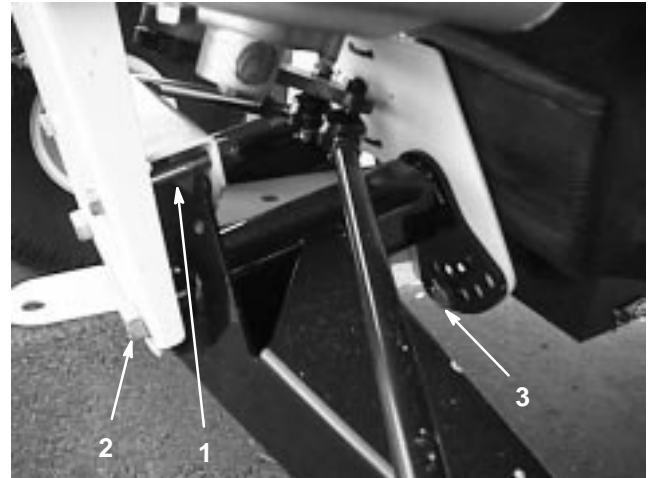

Figure 32
2. Remove the travel limiting bolt (Fig. 32).
3. Loosen the centering bolts in the front “A” frame (Fig. 32).
4. Remove the ride height adjustment bolt (Fig. 32).
5. Rotate the front “A” frame to the desired position (Fig. 32). The distance from the bottom side of the front hitch to the ground should be 7-3/4 to 8-1/2 in. (19.7 to 21.6 cm) with the tires inflated to 12 psi (83 kPa).
6. Replace the ride height adjustment bolt and the travel limiting bolt (Fig. 32).